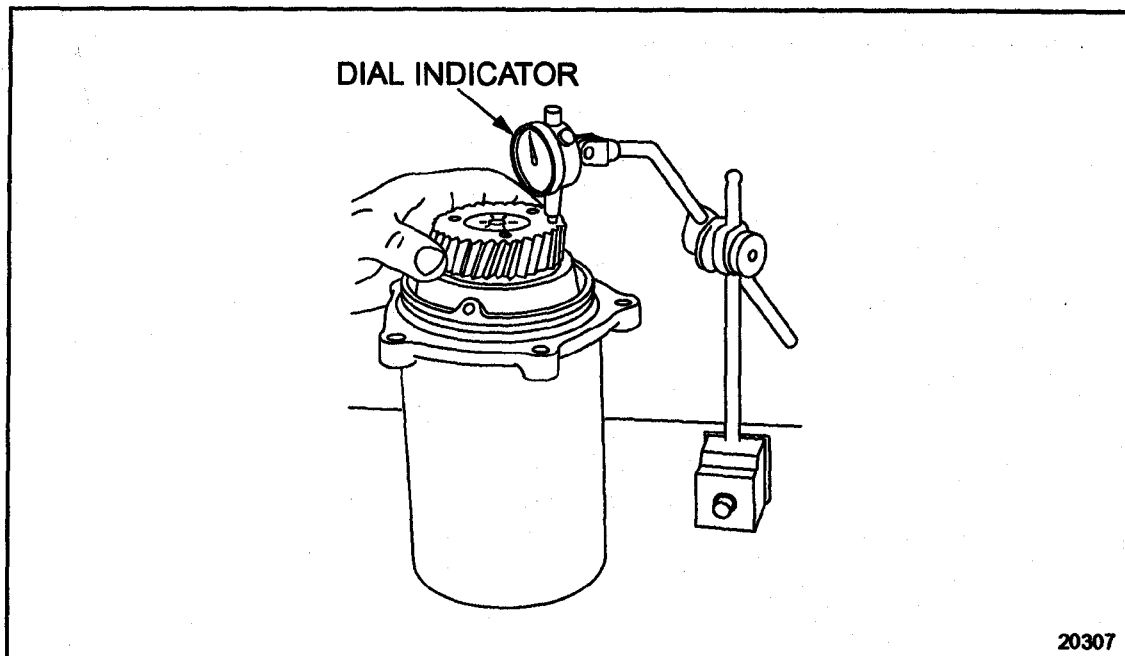

Figure 1-423 Accessory Drive Gear TIR Measurement
20. Support the accessory drive assembly. See Figure 1-423.
21. Assemble a dial indicator and magnetic base, so that the indicator stem rests on the face of the accessory drive gear just inboard of the drive gear teeth. See Figure 1-423.
23. Rotate the drive gear two full rotations. See Figure 1-423. As the gear is rotated, the dial indicator needle may register both to the left and right of zero.